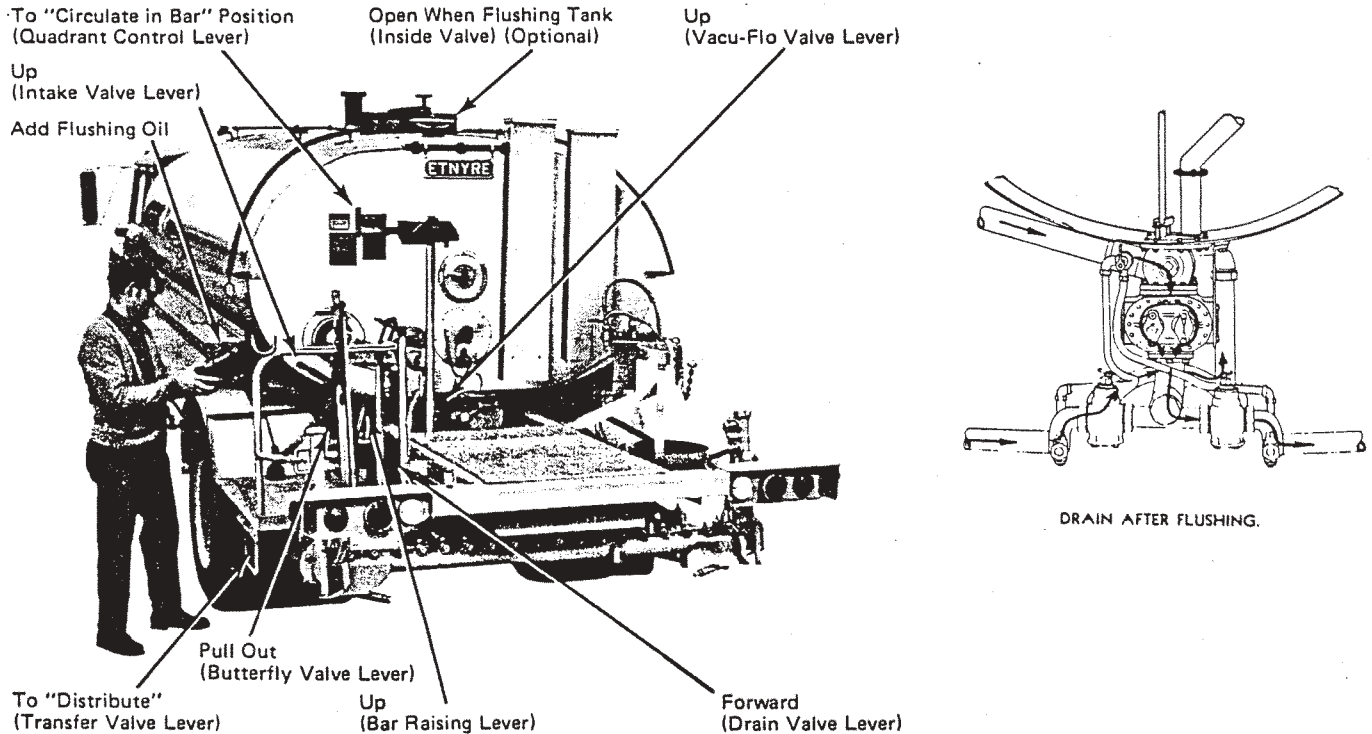

Figure 28. Flushing Spray Bar, Circulating System and Tank
1. Set the operating valves and levers as shown in Figure 28.